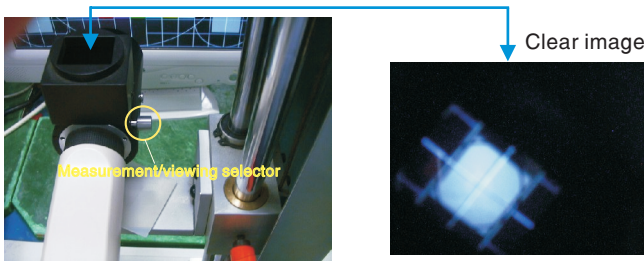

Fig. 4
8. Move the "Lens barrel" forward or backward to get clear image as shown in Fig. 4